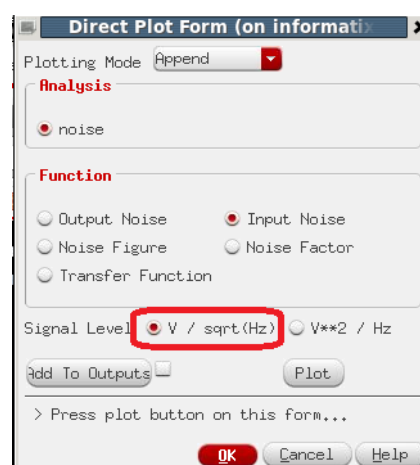

Fig. 6 – Noise Direct Plot
- Ensure you have chosen the correct unit in the direct plot window (Fig. 6) after simulation.